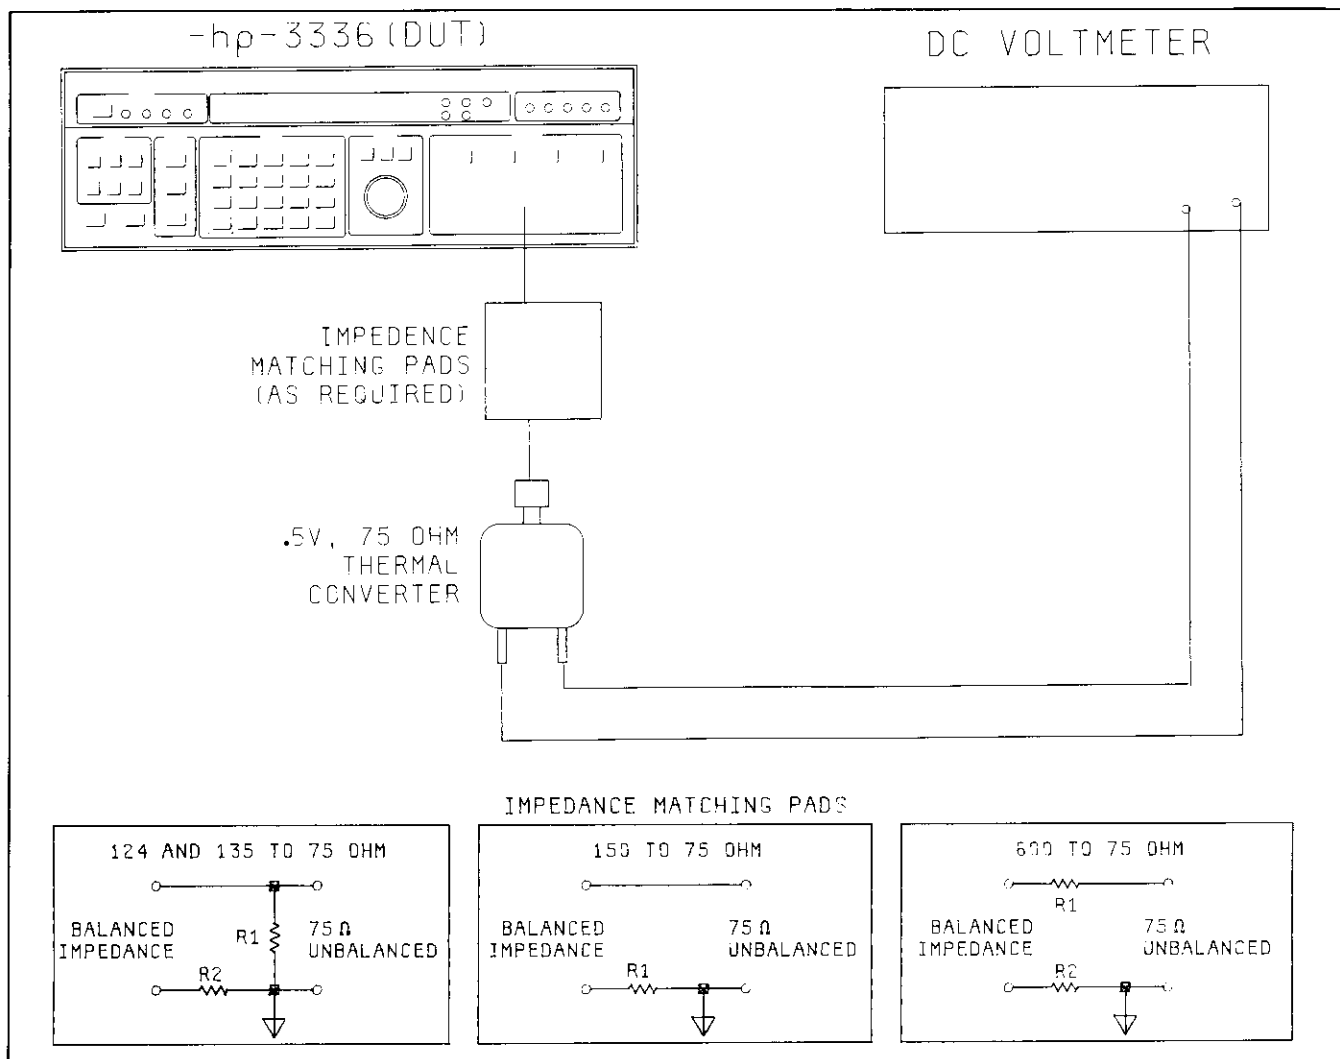

Figure 4-3. Amplitude Flatness Equipment Set Up.
a. Connect the equipment as shown in Figure 4-3. Connect the thermal converter directly to the 3336 (DUT), 75 ohm output. If this is not possible, use the shortest cables available. Use the appropriate impedance matching pad between the other 3336 outputs and the 75 ohm thermal converter.